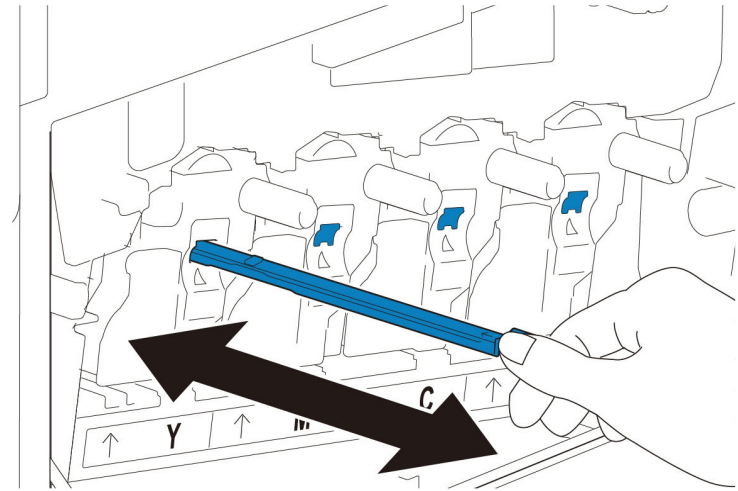

Figure 6 Insert the cleaning rod.
7. Insert the cleaning rod into one of the four holes of the tabs on the drum cartridges until it stops, and then pull it out, Figure 6.